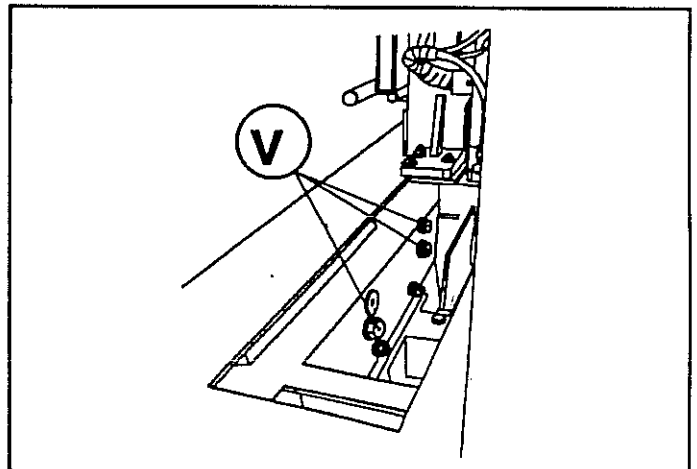

Fig.6.5
Dismantle the blade as seen already. Loosen the locking screws (V) of the sliding block. (fig.6.5)